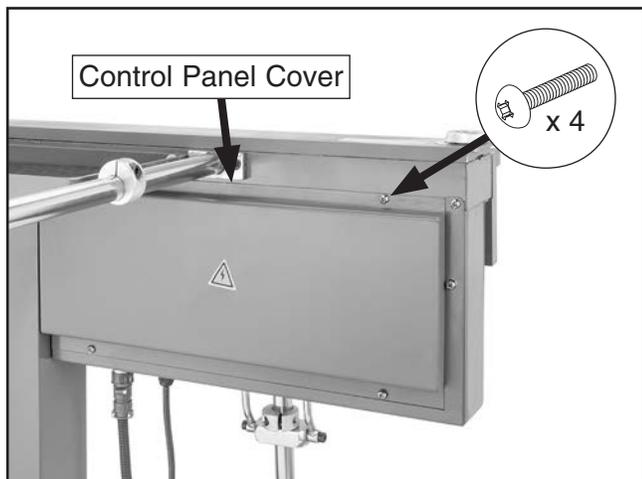

Figure 61. Control panel and securing Phillips head screws.
6. Remove (4) Phillips head screws and control panel cover (see **Figure 61**).